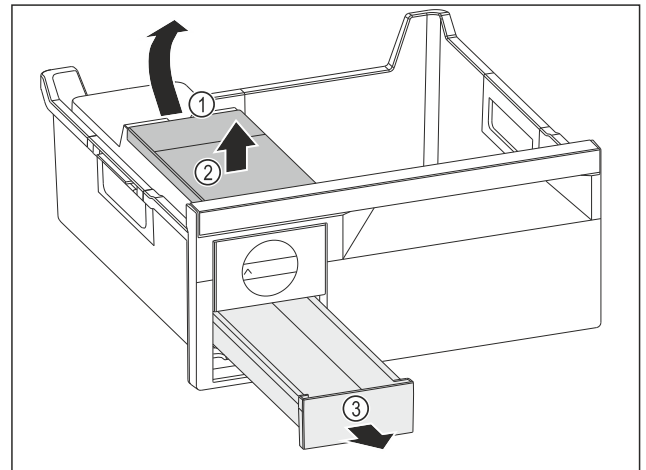

Fig. 87
- ▶ Removing the water tank: Lift the water tank by the recess Fig. 87 (1).
- ▶ Remove the water tank Fig. 87 (2) upwards.
- ▶ Remove the ice cube drawer Fig. 87 (3) to the front.